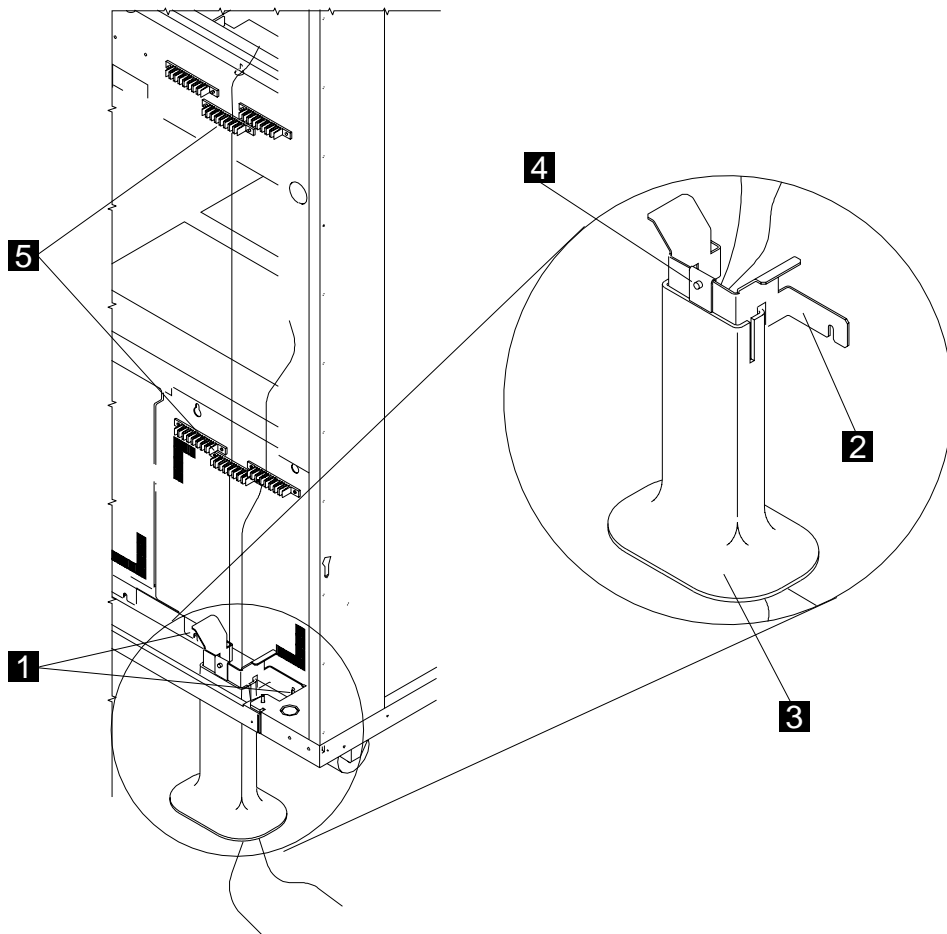

Figure 8-3. Routing the Optical Fibers
- If you have a bracket **2** with PN 76F9407 and the guide **3** with PN 69F2204 (see Figure 8-3) install as follows:
- Step b. \_\_\_ **Install** the bracket **2** (PN 76F9407), tighten the 2 screws **1**. See Figure 8-3
Step a. \_\_\_ **Route** the cables through the optical fiber guide if installed and insert the cables into the retaining strips **5**. (see Figure 8-3 on page 8-4 or Figure 8-3 on page 8-4)